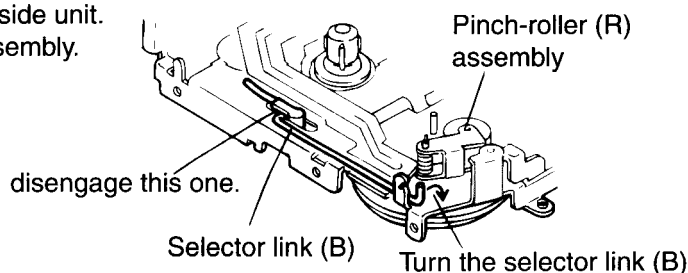

Fig. 9
1. Remove the selector link (B) from the front unit by turning the selector link (B) near the pinch-roller as shown in the figure 9.
3. Remove the four screws (7), (8) retaining the reel base assembly.